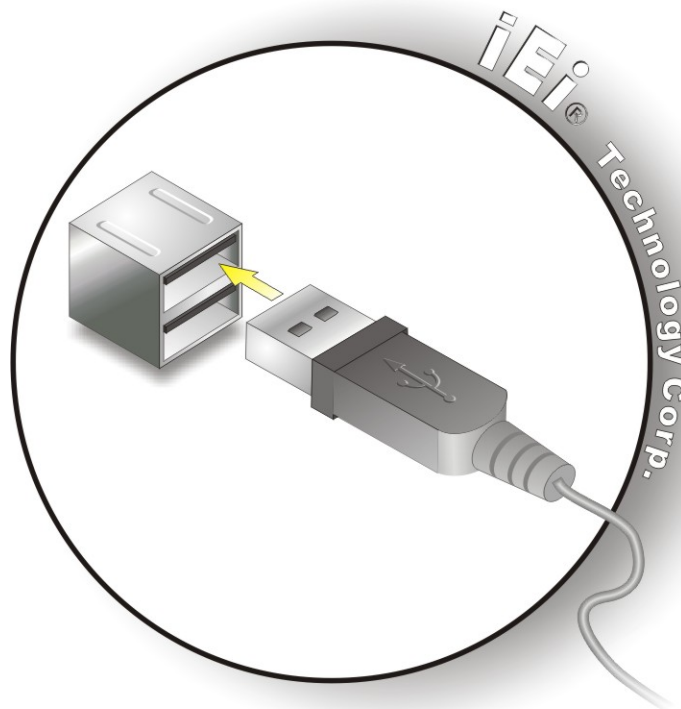

Figure 5-17: USB Device Connection
Step 2: Align the connectors. Align the USB device connector with one of the connectors on the WAFER-LX3. See **Figure 5-17**.